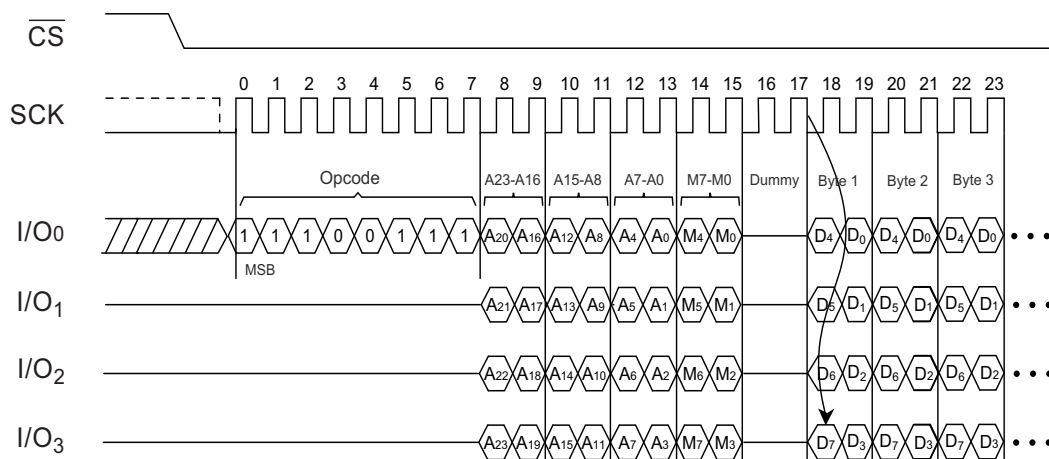

Figure 14. Quad I/O Word Fast Read Timing (Initial Command Set M5, M4 ≠ 1,0) SPI Mode
The Quad I/O Word Fast Read instruction is similar to the Quad Fast Read instruction, except that the lowest address bit (A0) must equal 0 and have two dummy clock cycles. Figure 14 shows the instruction sequence; the first byte addressed can be at any location. The address is automatically incremented to the next higher address after each byte of data is shifted out. The Quad Enable bit (QE) of the Status Register (S9) must be set to enable.